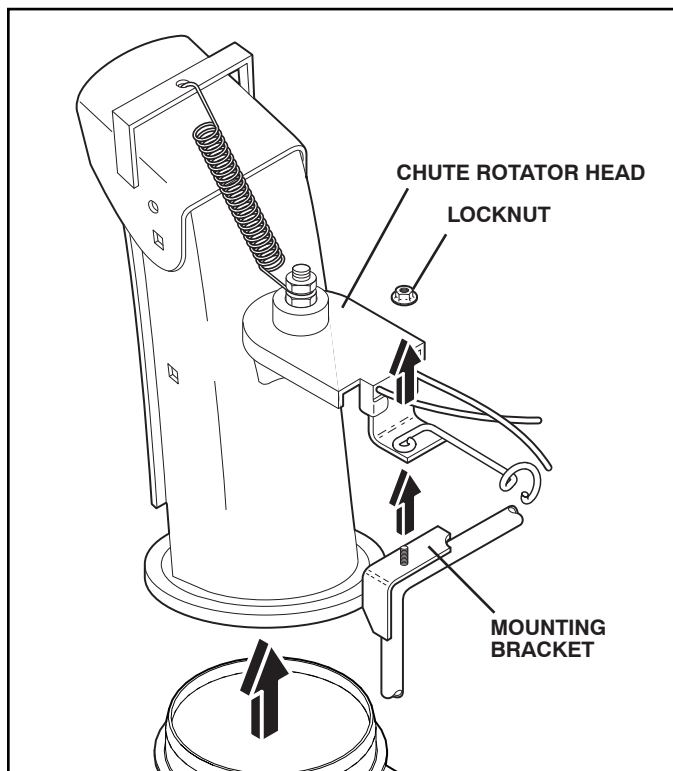

FIG. 20
2. REMOVE DISCHARGE CHUTE - Loosen lock nut securing chute rotator head to mounting bracket to allow chute rotator head to be raised and discharge chute to be removed from snow thrower. See Fig. 20.